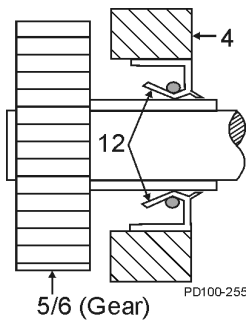

Figure 219 - Orientation of Oil Seal
2. Press the new oil seal (Figure 219, item 12) into the gear case cover (item 4) flush with the outside face, with the spring facing in.